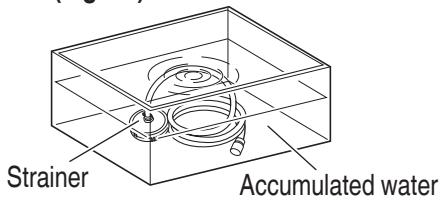

Fig. 17
3. Starting the suction hose water suction process (Fig. 17)